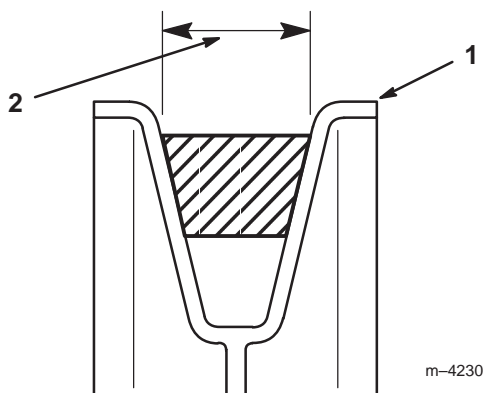

Figure 19
11. Make certain that the wide side of the PTO drive belt is toward the outside diameter of all (six) pulleys (Fig. 19).